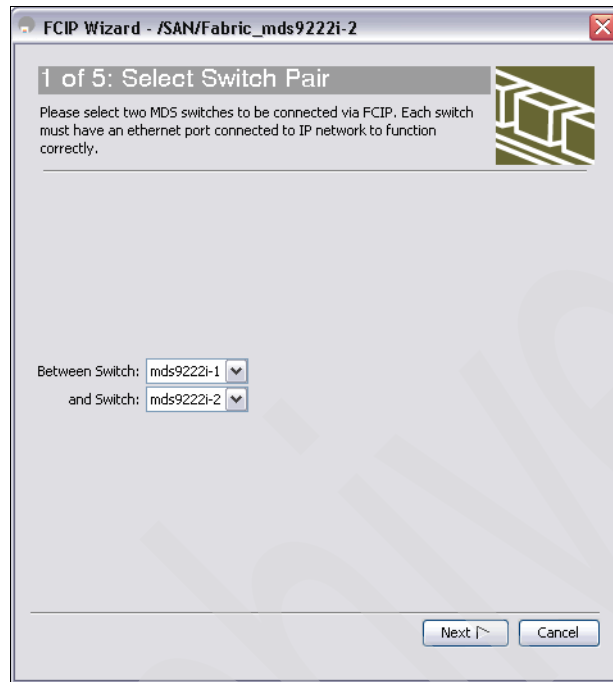

Figure 7-6 FM FCIP Wizard panel 1 of 5
1. We select the switch pair between which we establish the link, as shown in Figure 7-6. Click **Next** after making your choice.